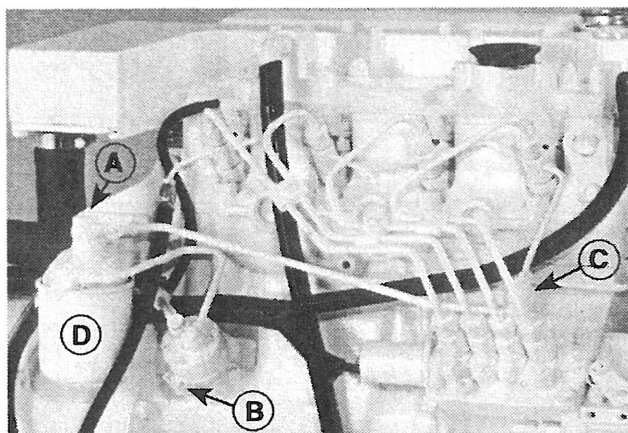

Figure 10. Fuel System Service Points
2. Loosen bleed bolt "A" (Figure 10) on top of filter. Pump hand primer "B" on fuel lift pump until pure fuel (no bubbles) escapes from bleed bolt "A". Tighten bleed screw "A".
3. Loosen bleed screw or bolt "C" (Figure 10). Pump hand primer "B" until pure fuel (no bubbles) escapes. Tighten bleed screw "C".